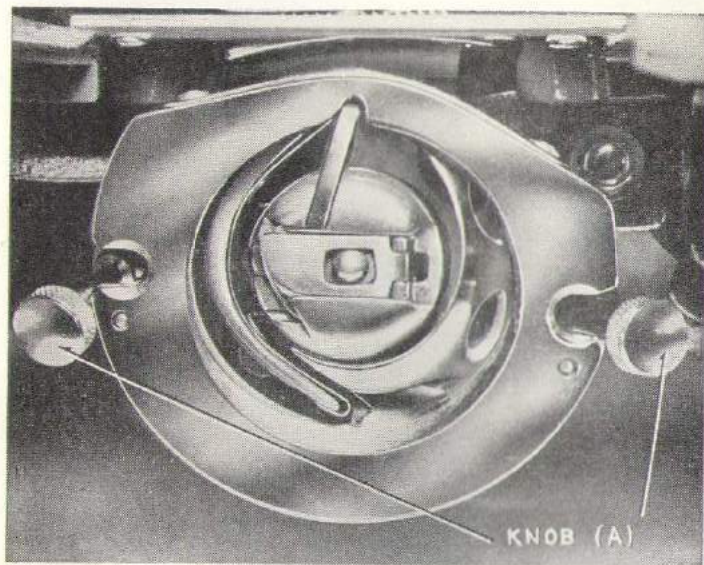

Fig. 26
- 2) Snap-out knob (A) on both sides of shuttle race releases to outside, then take out the outside-ring and the shuttle hook with your fingers. (Fig. 26).